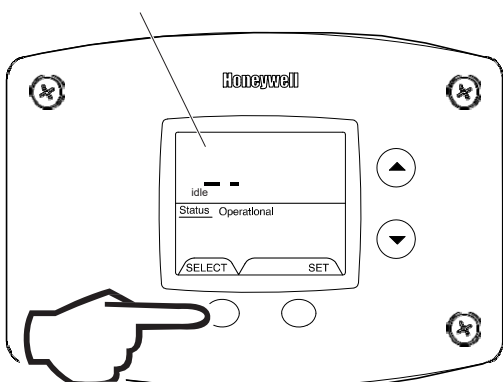

Fig. 77
3. Press the "Select" button to view the error code for 'code 10'. If there is a number displayed, note what the number is. The label next to the water heater display will identify the code number. If no number is displayed with only a '--' in the water heater display, then there has not been an error code for error code index 10 (Fig. 77).